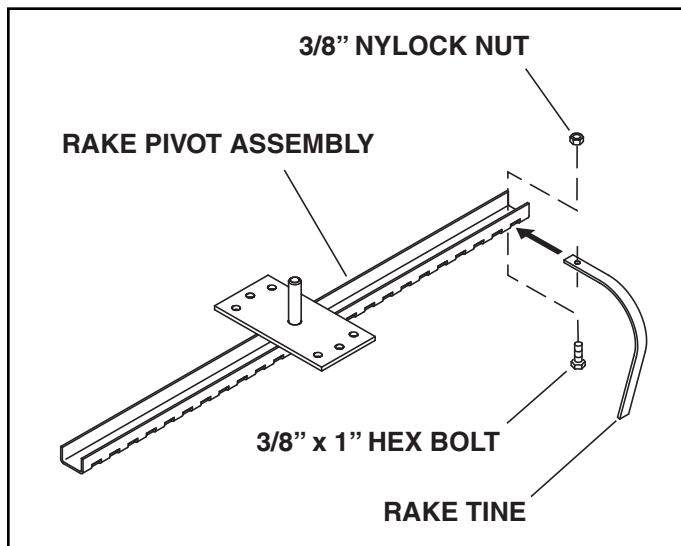

FIGURE 1
- Attach the 24 rake tines to the rake pivot assembly using a 3/8" x 1" hex bolt and 3/8" nylock hex nut for each tine. Insert the ends of the tines through the slots in the rear of the rake pivot assembly. Make sure all nuts and bolts are securely tightened. See figure 1.